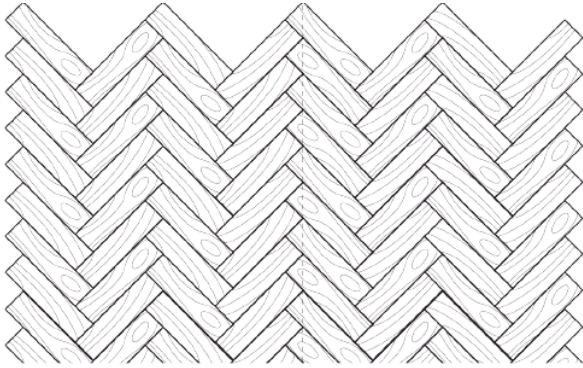

Figure 3
8. Continue the installation like this row by row towards the end of the room. (Figure 3) Always check each joint before continuing.